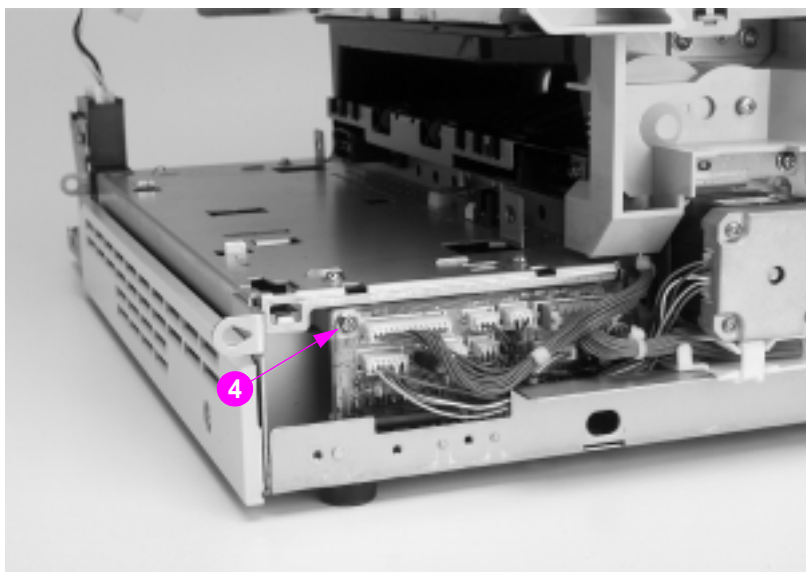

Figure 6-42 Paper feed PCB removal and replacement (3 of 3)
- 10 Remove the eight cables from their connectors on the paper feed PCB shown in Figure 6-42.